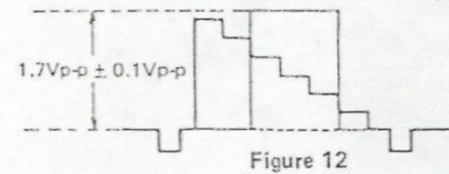

Figure 12
4. Adjust the SUB-CONT control (R303) to obtain 1.7 V p-p ± 0.1 Vp-p from the white level to pedestal level. (See figure 12.)